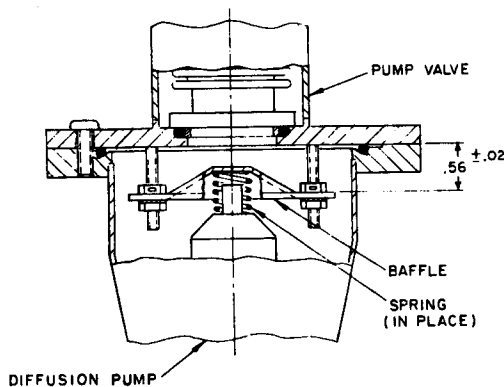

Figure 6-16. Correct Baffle Position
8. Wash the complete pump valve body assembly with methanol and dry thoroughly. If the nuts securing the baffle are disturbed, reposition them and tighten *securely* so that the baffle flange is $0.56 + 0.02$ inches ($14.2 + 0.5\text{mm}$) from the underside of the pump valve flange (Figure 6-16).